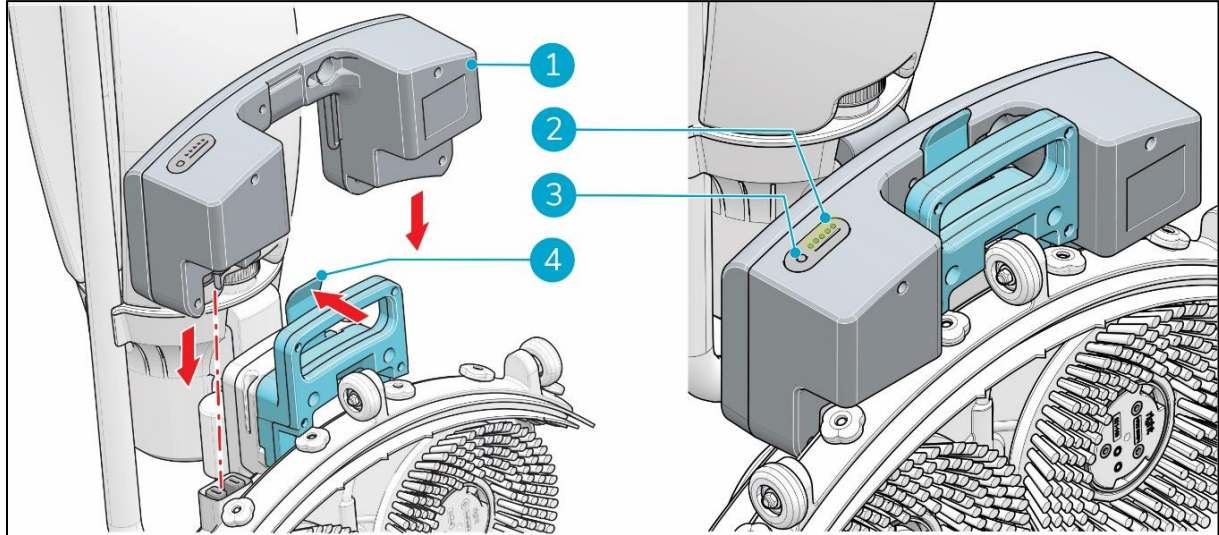

Figure 13
2. Push the battery (Figure 13, pos 1) in the battery slot. A click signals the battery is locked in place by the retaining clip (Figure 13, pos 4).
3. During operation, you can check the amount of power left (Figure 13, pos 2) by pressing the power indicator (Figure 13, pos 3) on the battery.